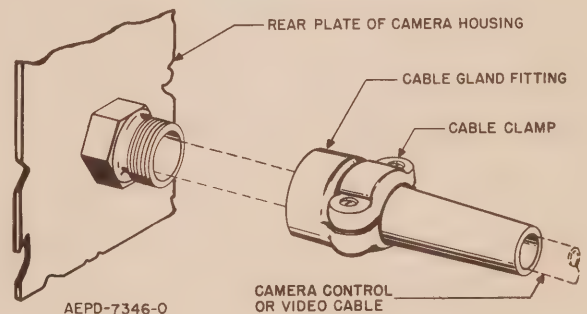

Figure 1.
- (2) Pass the cable through the sealed cable clamp on the back of the housing. Refer to Figure 1.